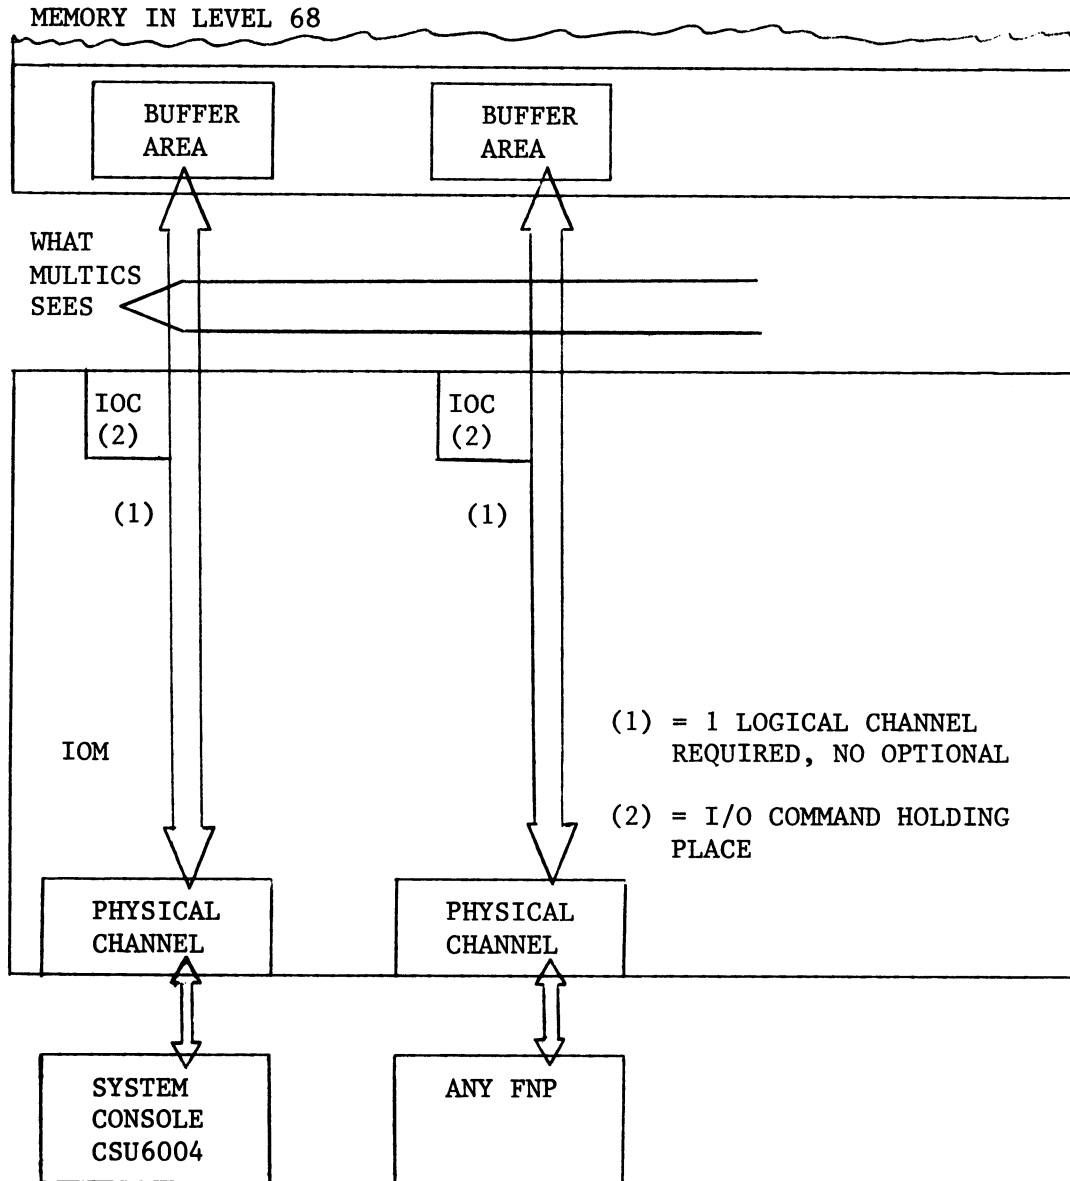

Figure 4-6. Logical Channel Assignments for Front-end Network Processors and Consoles
6. Logical channel assignments for Front-end Network Processors and Consoles (see Figure 4-6).